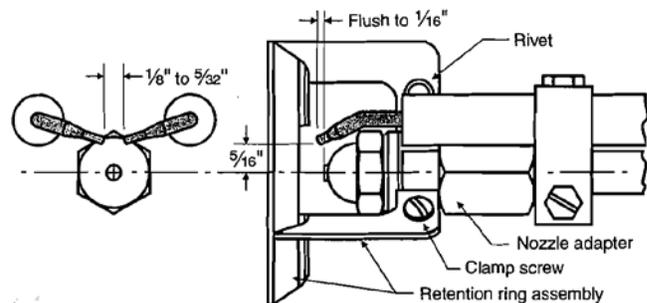

Figure 33: Electrode Settings
- e. Readjust air band to preliminary setting that corresponds to the nozzle installed, refer to Table 18. Inspect and measure burner electrodes. Refer to Figure 33 for proper electrode setting. Readjust electrode setting to the proper dimensions if necessary.